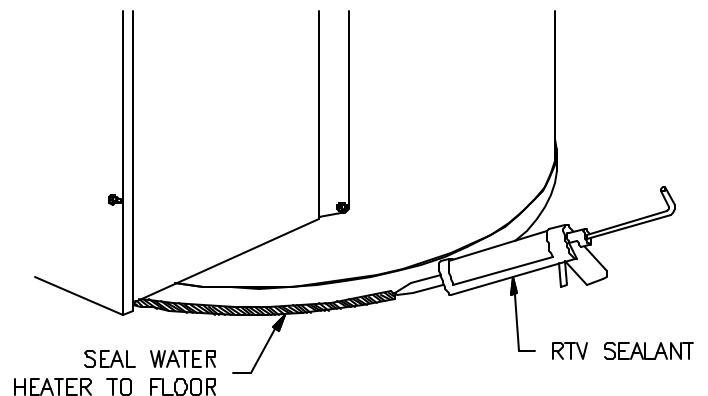

Figure 2
2. Seal water heater to floor using RTV sealant. Be sure to seal water heater completely to floor without leaving voids (**see Figure 2**).